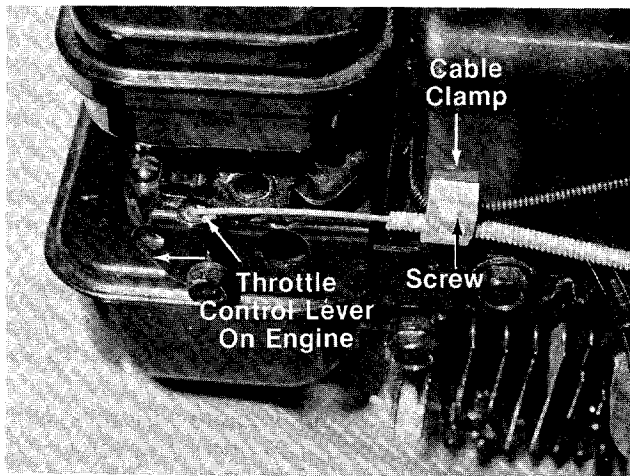

FIGURE 6.
10. Push the throttle control lever on the engine to the full open position (as far toward the outside of the unit as it will go) as shown in figure 6.
12. Loosen (do not remove) the screw on the cable clamp shown in figure 6. Slip the control casing under the clamp. With the throttle lever on the engine still in the full open position, tighten the screw to secure the throttle control cable.
1. Loosen, but do not remove, the screw securing throttle control wire assembly at engine. See figure 6.